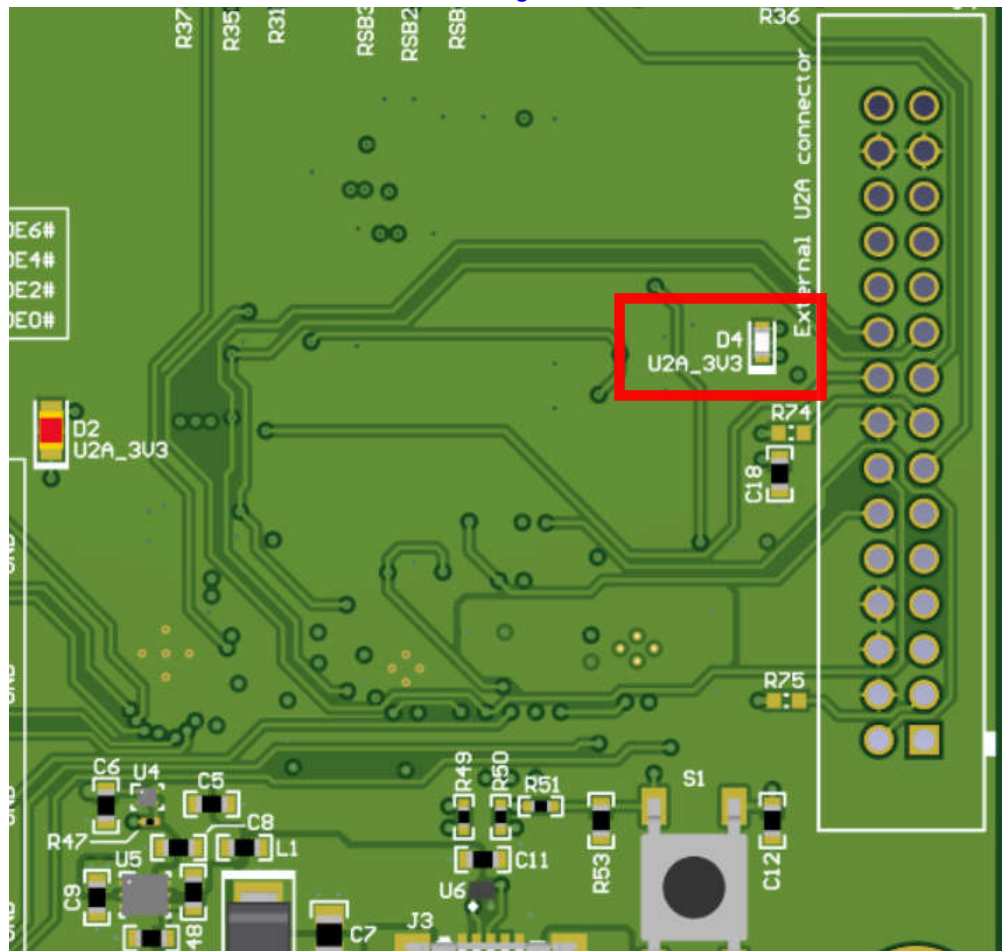

Figure 2-2. USB LED
- iii. Click *Identify* to blink LED shown in Figure 2-2. After clicking the *Identify* button, the LED flashes quickly at about 0.5 second on, 0.5 second off for about 5 seconds. This confirms the connection to the board. However, be aware that USB2ANY devices connected to the PC, but not attached to a TICS Pro instance, can blink at a slow rate of 1 second on, 1 second off continuously.